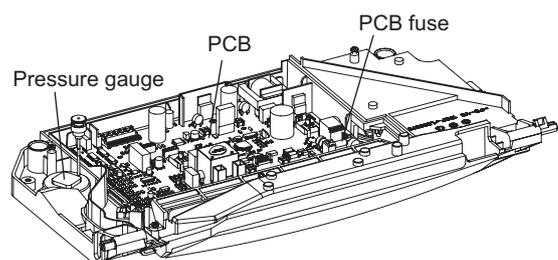

Fig. 7.2
7.7 FUSE - Fig. 7.2
7.8 PCB - Fig. 7.2
2. Remove the three retaining screws in the PCB cover and remove cover. See Fig. 7.2.
7.9 PRESSURE GAUGE - Fig. 7.2